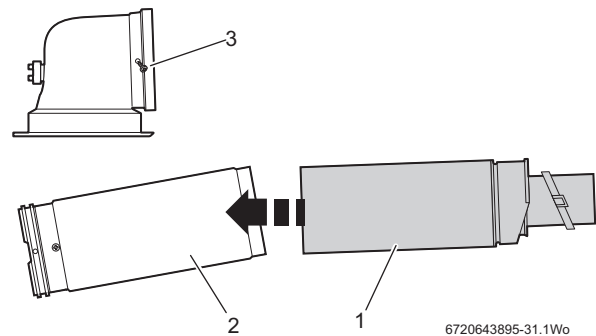

Fig. 37 Reducing the standard terminal
- ▶ If the required length is less than 350mm the standard telescopic flue can be modified, refer to fig. 37.